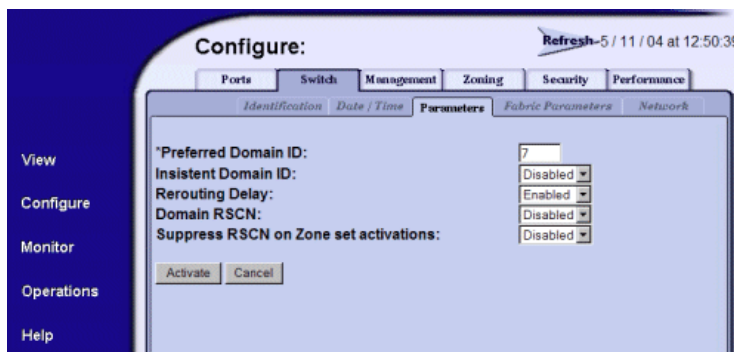

Figure 41: Switch page—Parameters tab
3. Choose **Switch > Parameters** to display the **Operating Parameters** tab (Figure 41).